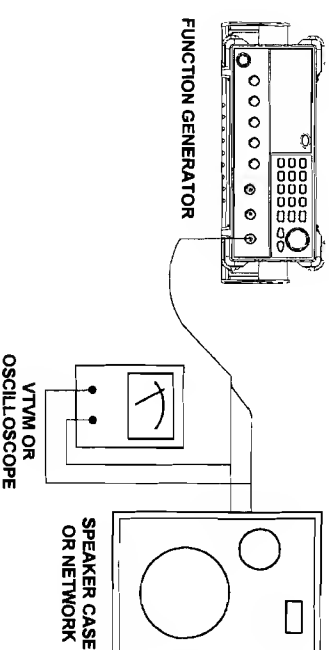

Figure 8
- Connect the DUT (device under test) as figure 8 shows. Oscilloscope can be used as well as voltmeter.